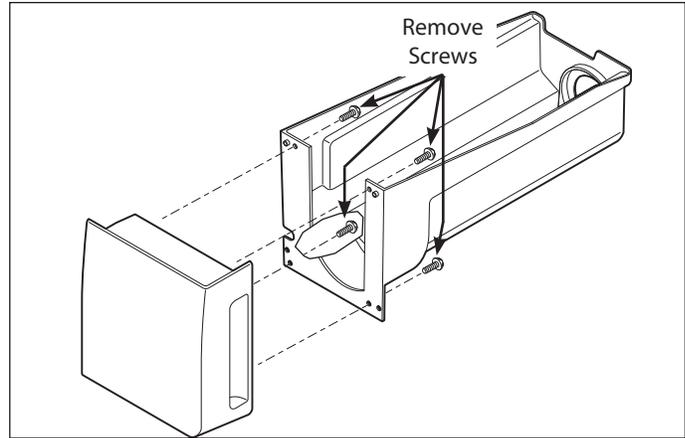

Figure 6-91.
1. Extract the four screws securing the ice container front to ice container. (See Figure 6-91)